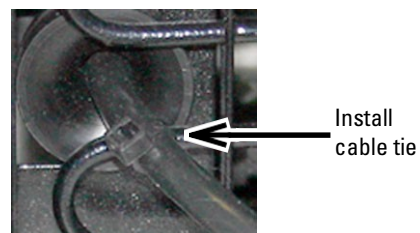

Figure 13: Install cable tie to secure power cord
- 20. Install the cable tie to secure the power cord that runs through the refrigeration assembly (Figure 13).